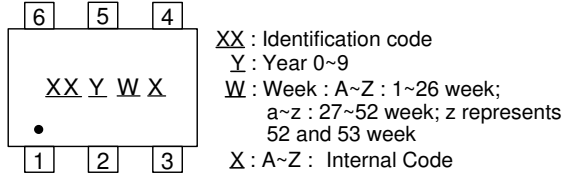

**Figure 1. Load Circuit and Voltage Waveforms**
$V_{CC} (A) = 1.5V \pm 0.1V$ ,  $T_A = -40^{\circ}C$  to  $+85^{\circ}C$ , See Figure 1
$V_{CC}(A) = 1.8V \pm 0.15V$ ,  $T_A = -40^\circ C$  to  $+85^\circ C$ , See Figure 1
$V_{CC}(A) = 2.5V \pm 0.2V$ ,  $T_A = -40^\circ C$  to  $+85^\circ C$ , See Figure 1
$V_{CC}(A) = 3.3V \pm 0.3V$ ,  $T_A = -40^\circ C$  to  $+85^\circ C$ , See Figure 1